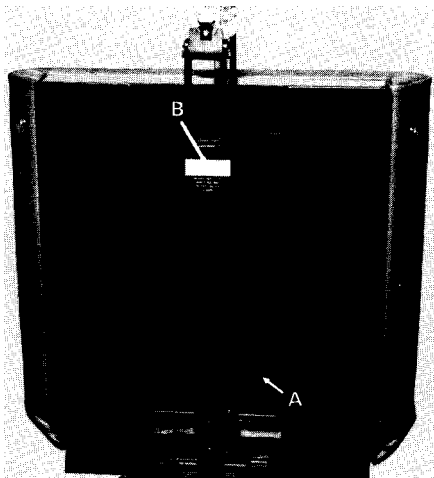

Fig. 3
- 1) Remove the metal panel from the metal back frame by removing (4) small screws. (Item A, Fig. 3).
If a part replacement should be required, the part should be ordered direct from the Midmark factory. When any part is ordered, a complete description or part number of the part required, along with Serial Number and date of installation of the table, must be supplied. For details of the exchange plan, write the plant. (For location of serial number plate, See Item B, Fig. 3.)